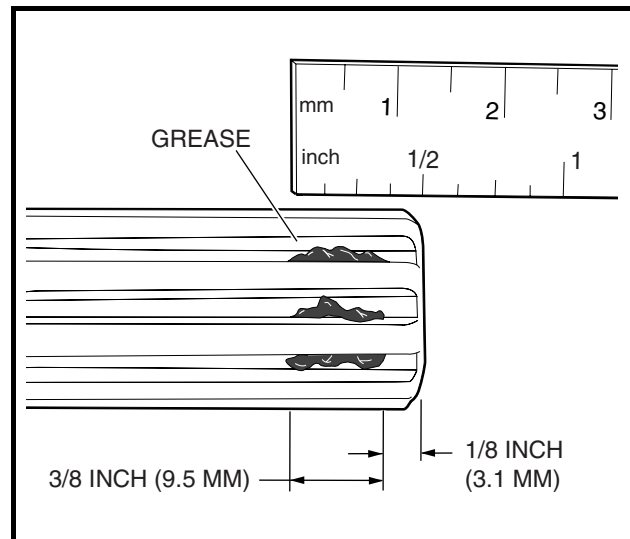

Figure 26-14 Application of grease to Input Shaft Grooves
- 2.3. Apply motor coupling grease evenly to the rotating input shaft starting at approximately 1/8 inch (3.1 mm) from the end of the shaft and working back toward the transaxle (away from the end of the shaft) (**Figure 26-14, Page 26-12**).